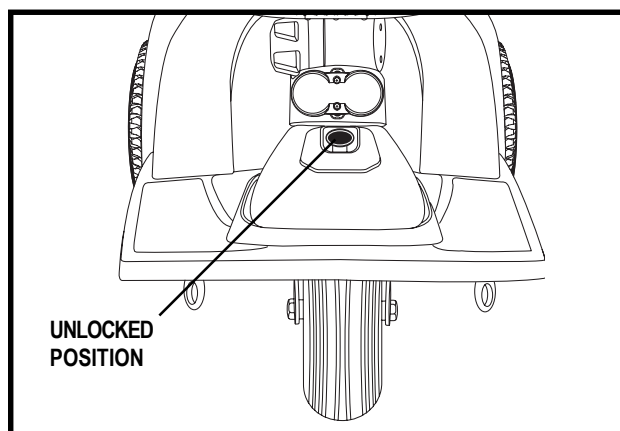

Figure 21A. Tiller Lock Knob (Unlocked)
9. Unlock the front wheel by turning the tiller lock knob 90° anticlockwise. See figure 21A.